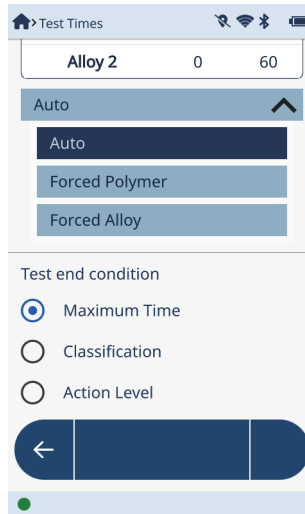

Figure 2-88 Force Classification options
3. Choose the appropriate classification method (see Figure 2-88 on page 100):